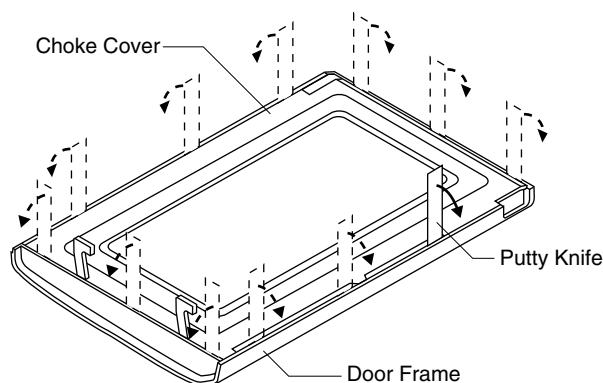

Figure C-6. Door Disassembly
3. Insert a putty knife (thickness of about 0.5mm) into the gap between the choke cover and door frame as shown in Figure C-6 to free engaging parts.
4. Pry the principles of the lever and lift up the choke cover by inserting a putty knife as shown in Figure C-6.